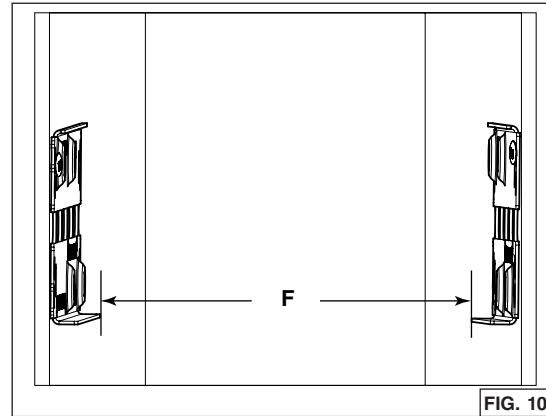

FIG. 10
6. Measure the distance between both bottom bracket edges (**F**) (FIG. 10). The table below shows the appropriate distance needed.